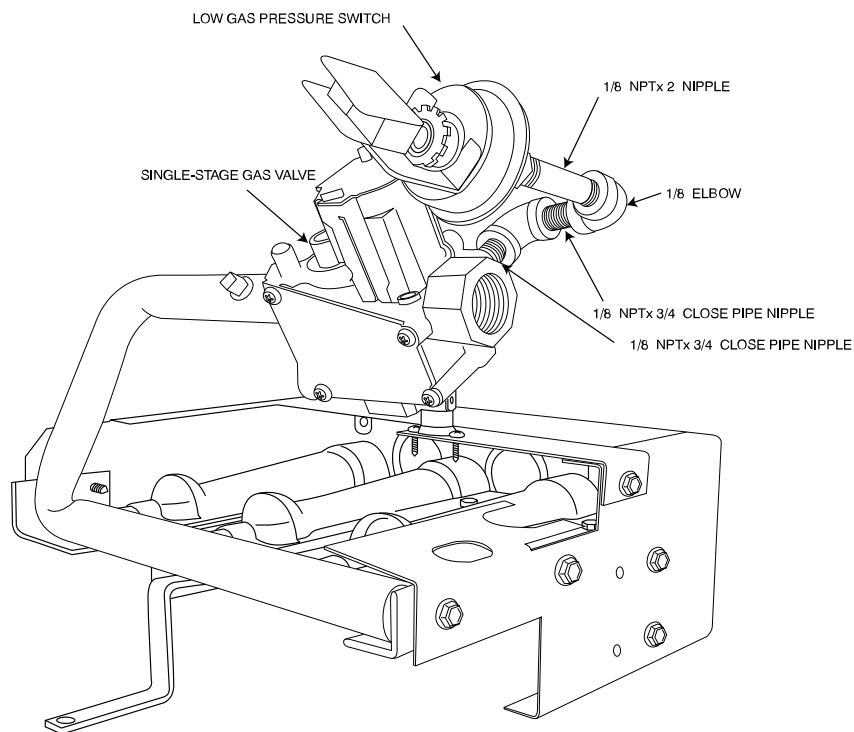

Fig. 17 – Removing Elbows, Nipples, and Low Gas Pressure Switch on Single-Stage Units
13. If there is a low gas pressure switch mounted to the gas valve (see Fig. 17) it must be removed. Disconnect all of the 1/8-in NPT pipe fittings leading back to the gas valve. Plug the open hole in the gas valve with the 1/8-in. pipe plug contained in this kit. Use a suitable pipe sealant (field-supplied, must be certified for use with natural gas) to prevent leakage of combustible gas.